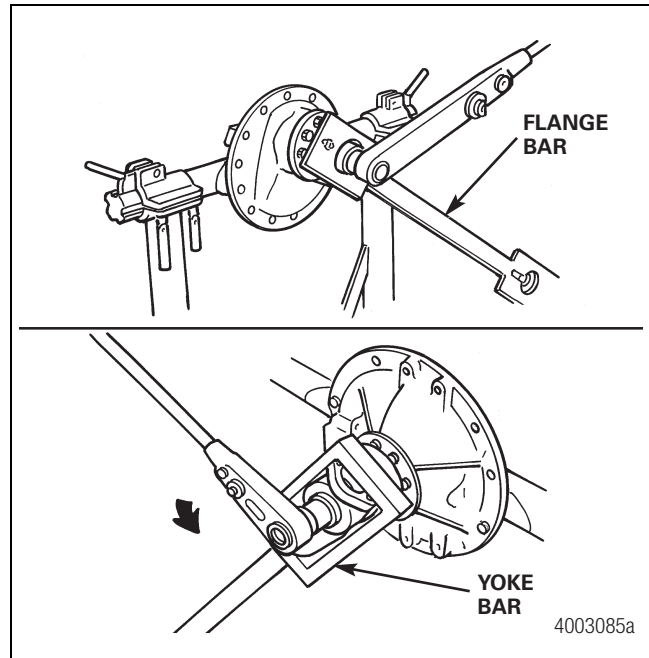

Figure 4.4
3. Install a flange or yoke bar to hold the yoke stationary while you are removing it. Figure 4.4.